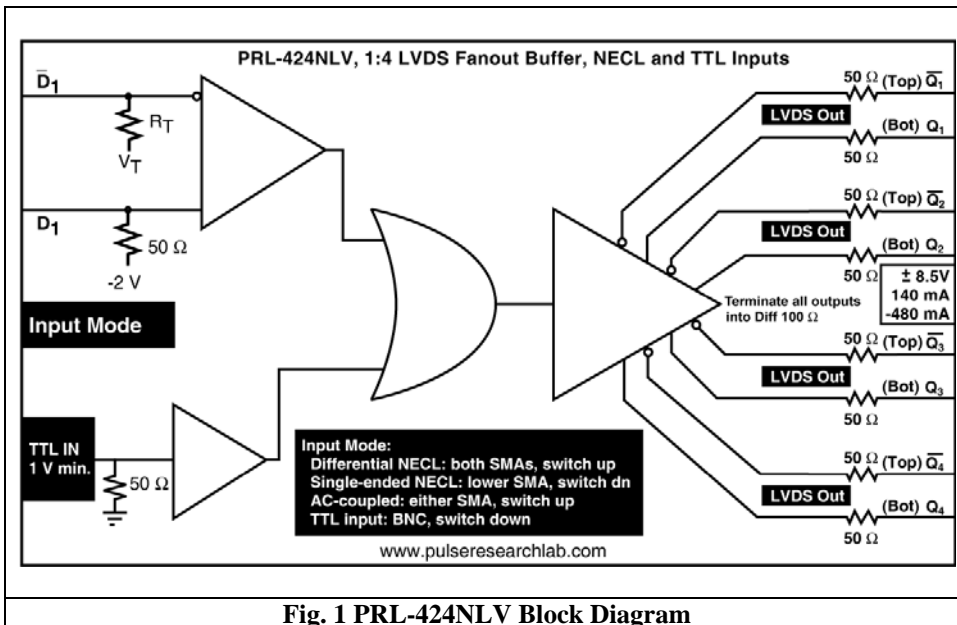

Fig. 1 PRL-424NLV Block Diagram
- For the NECL input a switch selects either single-ended or differential inputs, as shown in Fig. 1. In the differential input mode, both inputs  $D$  and  $\bar{D}$  are terminated internally into  $50\ \Omega/V_{\text{TT}}$ , where  $V_{\text{TT}}$  is  $-2\text{ V}$  for NECL. In the differential input mode, therefore, either one or both inputs can accept AC coupled signals as well. In the single-ended input mode, signals should be connected to the  $D$  input only. The  $\bar{D}$  input is switched internally to  $V_{\text{BB}}$ , nominally  $-1.3\text{ V}$  for NECL, and termination resistor  $\bar{R}_{\text{T}}$  for the  $\bar{D}$  input channel is changed to  $62\ \Omega$ . The connectors for the NECL input are SMA.